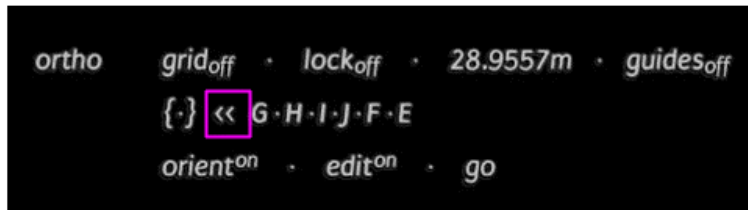

Figure 76. Click on the double arrows to add depth markers to brackets.
- After markers have been added to all (six) depth markers, click the double arrows to add all of the markers to the Ortho grab set brackets (Figure 76).